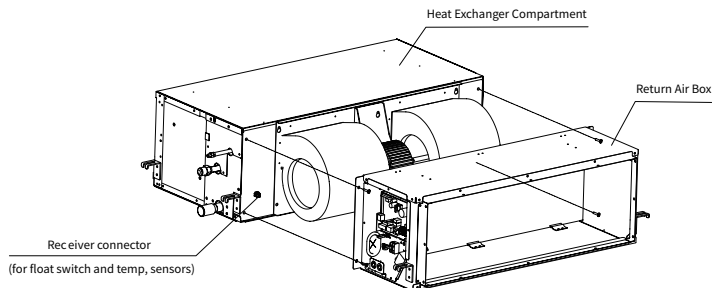

Fig.4.4
- (3) Remove the 4 bolts (M6) on the back of the supply air box, carefully pull the Return Air Box away, taking care not to damage the fan motor wiring (Fig.4.4).